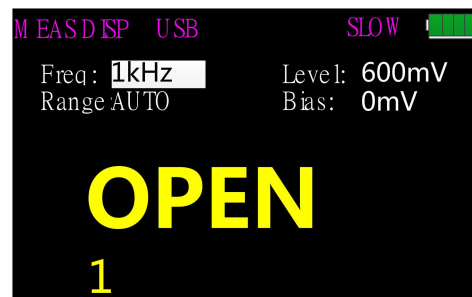

Figure 12
2. Short press **▲NULL** for open (OPEN) or short (SHORT) circuit correction and the interface is shown as in Figure 12. If the correction is successful, the secondary display shows "SUCESS"; or it shows "FAILED".